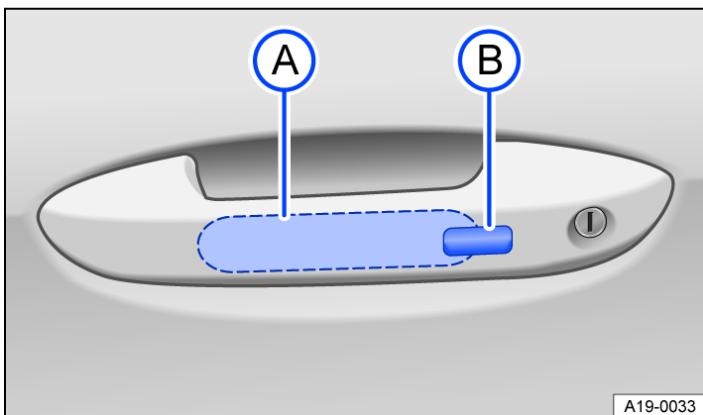

Fig. 1 In the door handle: sensors.
— Touch the sensor → Fig. 1 A on the inside of the door handle. All turn signals flash *twice*.
- Touch the sensor → *Fig. 1* B on the outside of the door handle. All turn signals flash *once*.